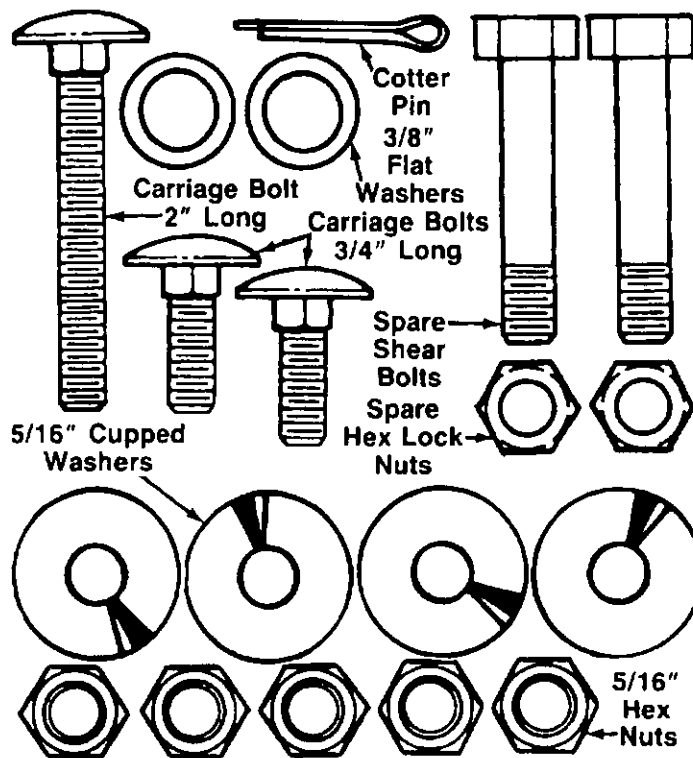

FIGURE 1.
- 4. **Hardware Pack** (plastic bag) which contains the hardware shown in figure 1 (shown actual size), plus one chute crank bracket which is not shown.